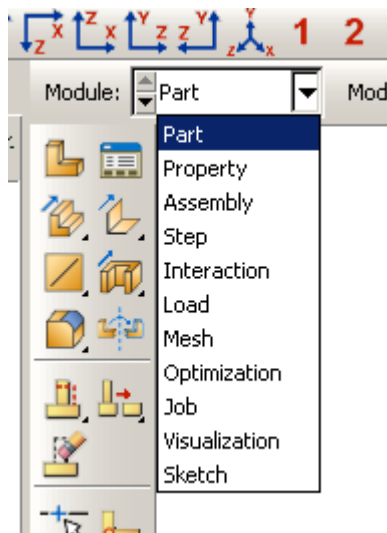

Figure L2–1. Module list
1. Abaqus/CAE automatically loads the Part module. Any other module can be accessed from the **Module** list located in the context bar, as shown in Figure L2–1.